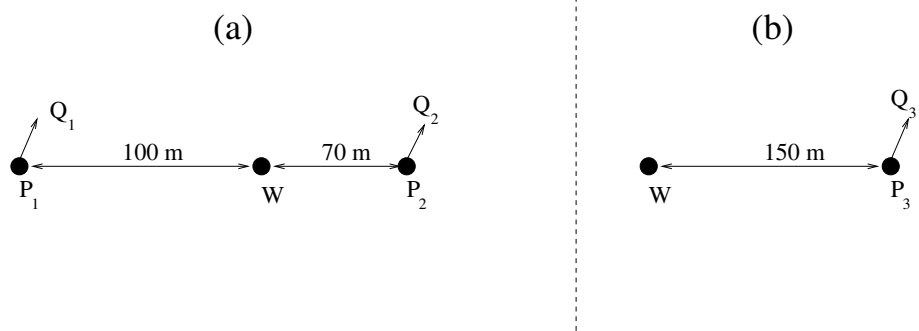

Figure 7: Exercise 8
8. Figure 7 reports two different configurations of wells and pizeometer in a confined aquifer, characterized by a hydraulic conductivity $K = 10$ m/day, an elastic storage coefficient $S_s = 10^{-5}$ m⁻¹ and a thickness $B=10$ m. From the wells, water is extracted at the following rates: $Q_1 = 15$ m³/day for 50 days; $Q_2 = 10$ m³/day for 20 days; $Q_2 = 20$ m³/day for the next 30 days; $Q_3 = 20$ m³/day for 50 days. Calculate the drawdown in the piezometer W at $t = 50$ days for the two distinct configurations (a) and (b).